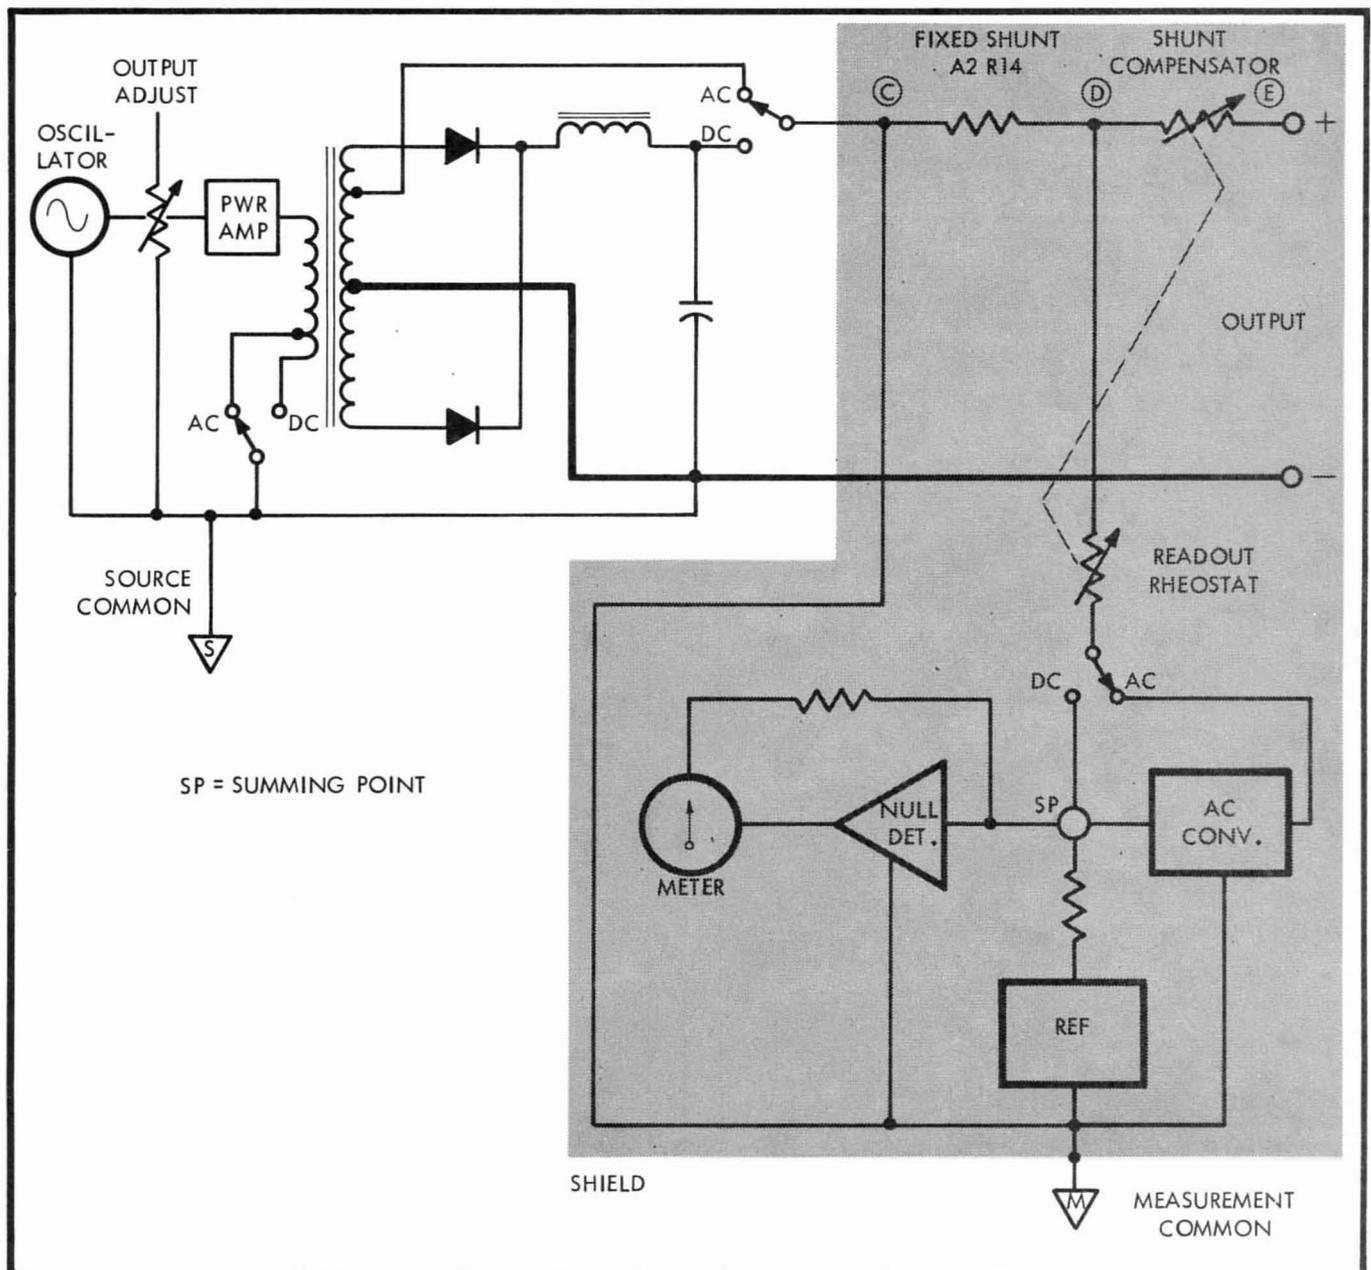

Figure 3-7. HIGH CURRENT ARRANGEMENT
3-38. HIGH CURRENTS. Figure 3-7 shows the circuit arrangement for high ac-dc currents from 0.1 to 9.99999(10) amperes. The high current arrangement uses a fixed shunt, a shunt compensator, and the same